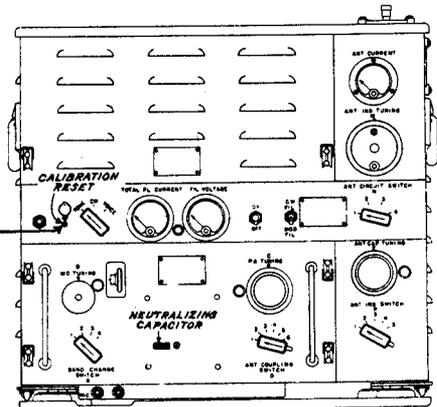

Fig. 6.—Calibration and neutralization controls.
2. Tune to mid-frequency of transmitter tuning unit and, with dummy antenna connected as shown in diagram, unlock neutralizing capacitor control with screw driver. (Neutralizing capacitor is located behind Calibration Chart. See fig. 6.)